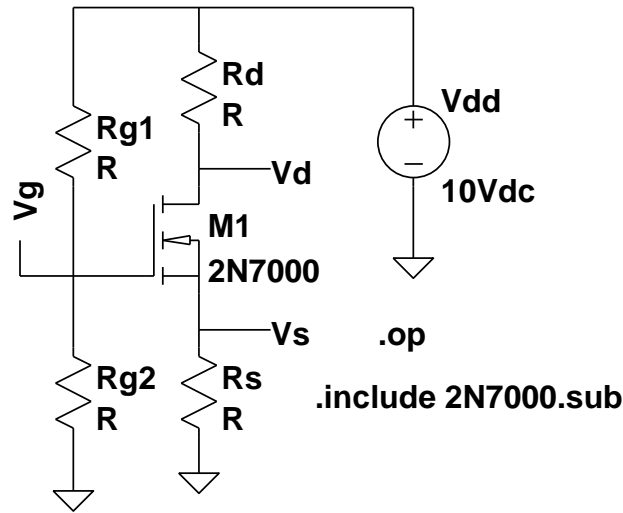

Figure 2
2. Build a four resistor bias circuit (figure 2) for a NMOS. Design the circuit such that $V_{dd} = 10V_{dc}$, $V_g = 5V$, $V_{ds} = 5V$, $I_d = 10ma$, $I_{Rg2} = 1ma$, assume $V_{gs} = 2.4V$. Set the value of I_D by setting the value of R_s . Because $V_s = V_g - V_{gs}$ assume V_{gs} is almost constant so V_s is almost constant, so changing R_s will not change V_s but it will change I_s and assume $I_d = I_s$.
Build the circuit from figure 2 on LTspice using the resistor values you designed in the prelab. Use the standard 10% resistor values. Run a DC Sweep of V_{dd} from 0 to 12V in 1V increment. Plot the voltage V_g and the current I_d of the MOSFET. Answer the questions on the datasheet and include your plot.